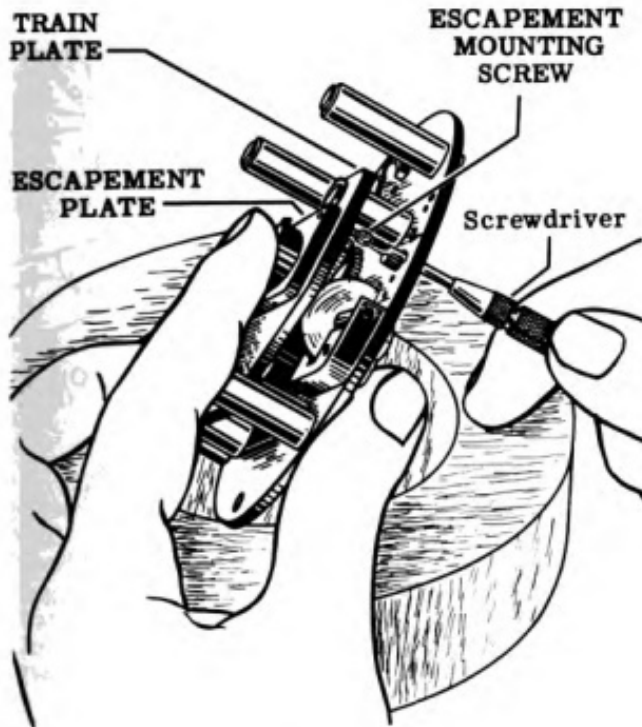

Figure 64
12. Place the escapement in position. Screw it down to the train plate with the two escapement mounting screws—working through the holes in the front plate as shown in Fig. 64.